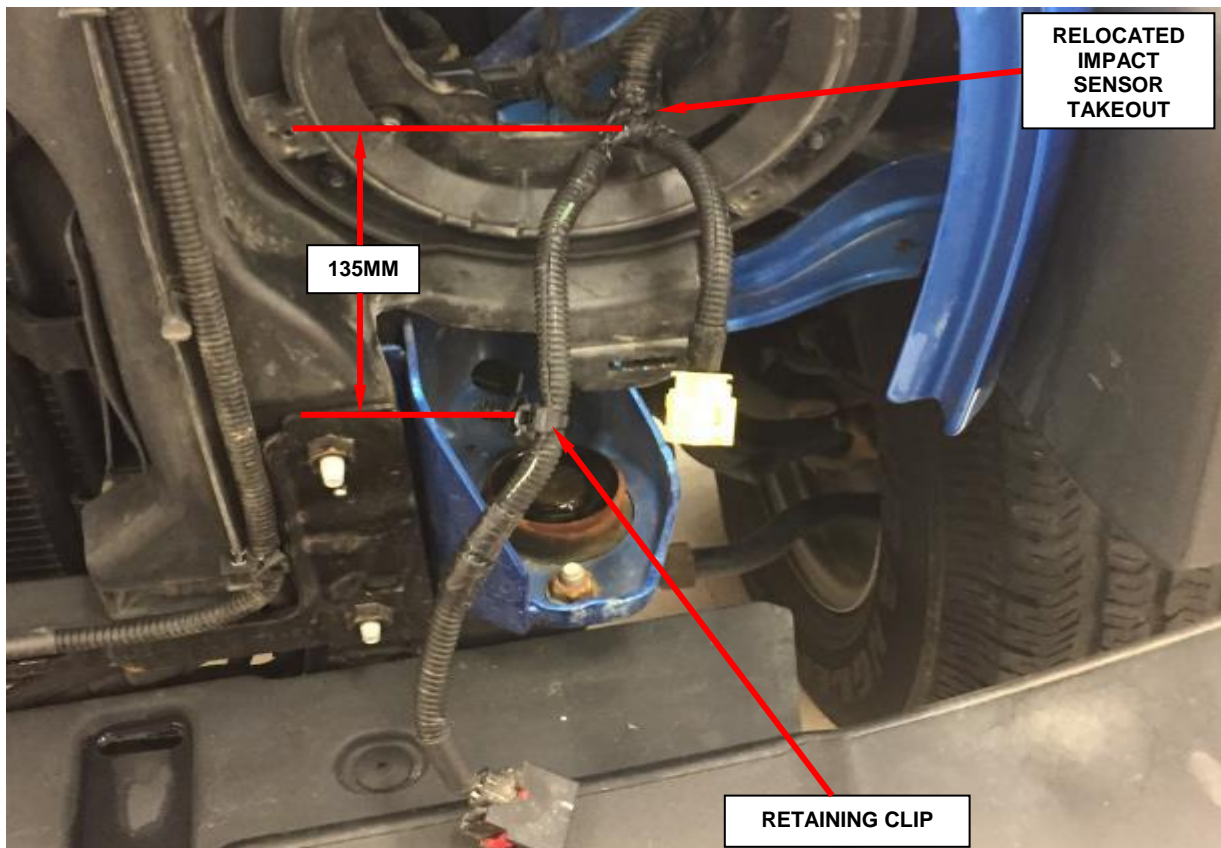

Figure 18 - Wire Harness Retaining Clip
49. Install a **NEW** wire harness retaining clip to the wire harness 135mm (5.5in) from the new takeout as shown. Trim off excess length (Figure 18).